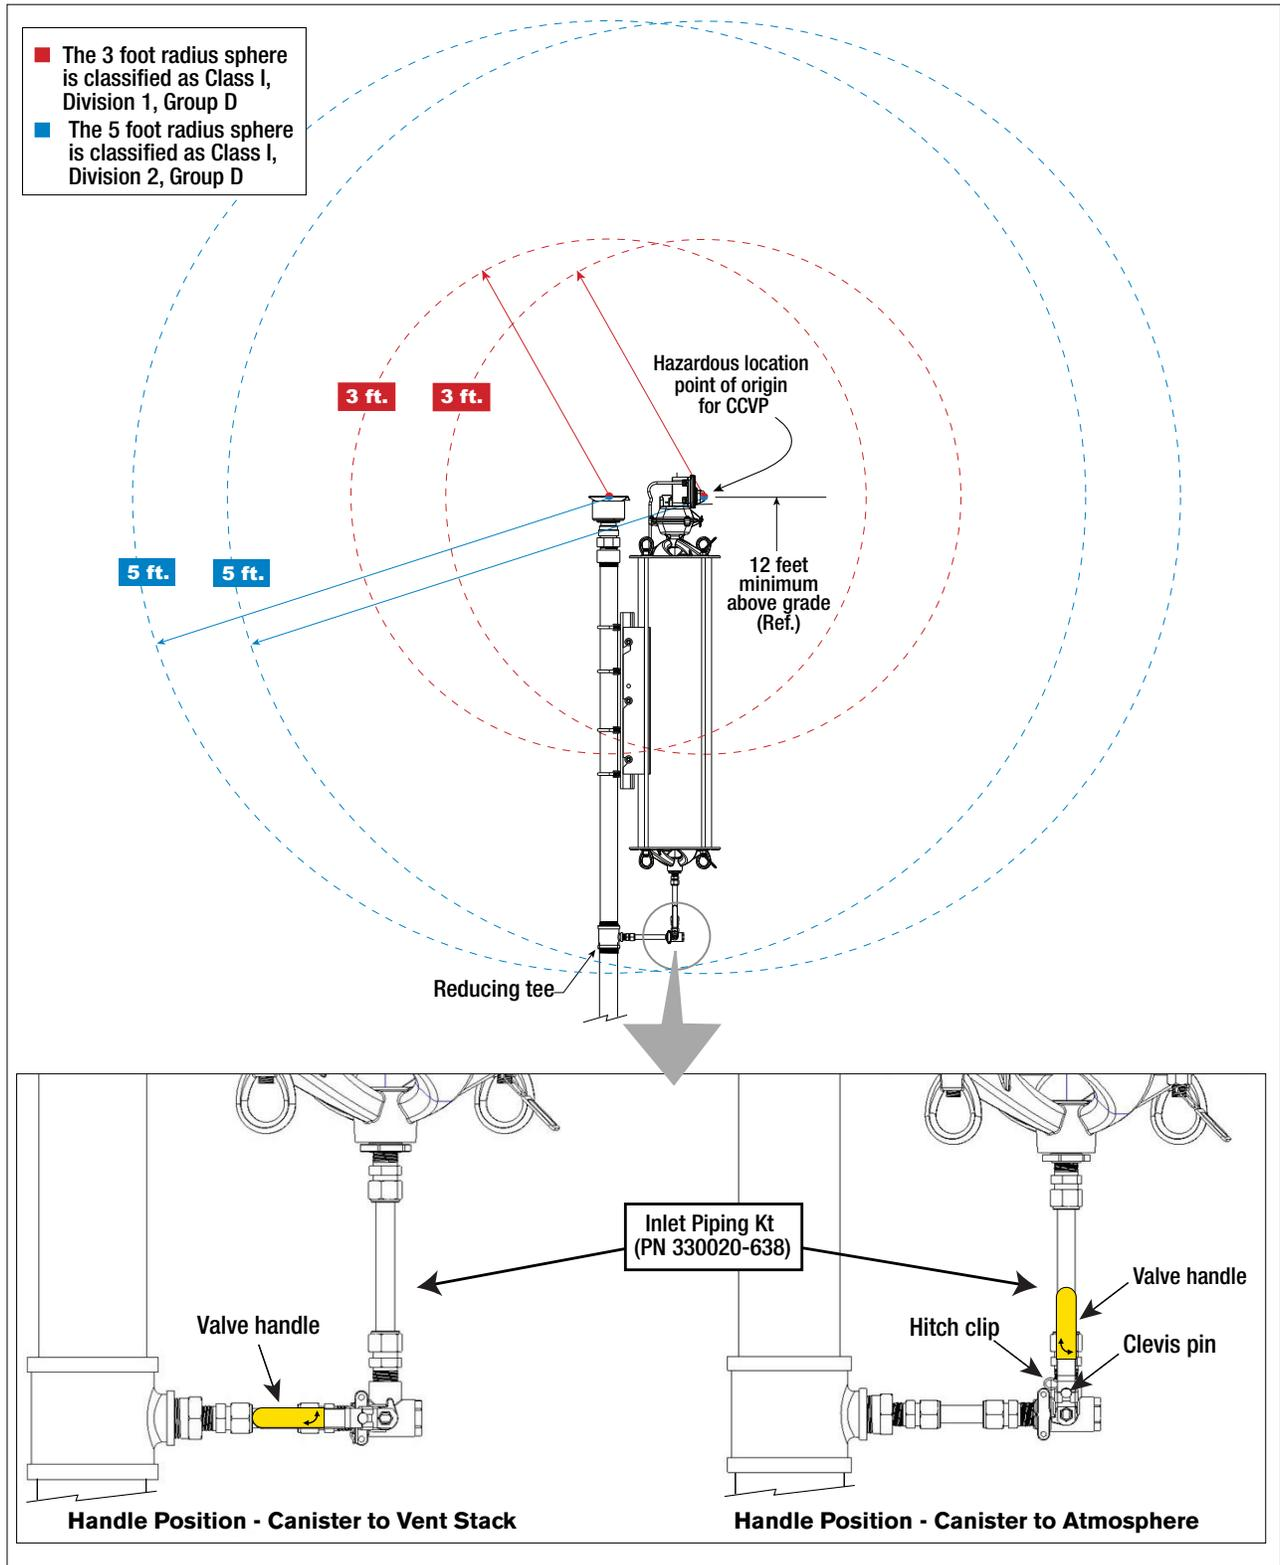

Figure 3. Inlet plumbing detail and classified area definition
- The canister can only be installed in systems with a vapor recovery vent stack fitted with a UL Listed pressure/vacuum (P/V) valve (ref. [https://www.arb.ca.gov/testmeth/vol2/tp201.1e\\_cert\\_may2006.pdf](https://www.arb.ca.gov/testmeth/vol2/tp201.1e_cert_may2006.pdf)). The outlet of the carbon canister vapor valve has the same classified area requirements as the P/V valve per figure 3 and is subject to approval by the local authority having jurisdiction.
7. Figure 3 shows important Class I Div 1, Group D and Class I Div 2, Group D radius spheres and operability test valve handle positions of the installed canister.
13. Connect all lower fittings, valve and tubing between the vent pipe and the lower manifold on the CCVP (see Figure 3).
14. Confirm ball valve is in the open, canister to vent stack position (per Figure 3), then insert the clevis pin and secure with the hitch pin.
- The Hazardous Location Area Classification shown for the CCVP in Figure 3 must be considered from the point of origin for all offset mountings.